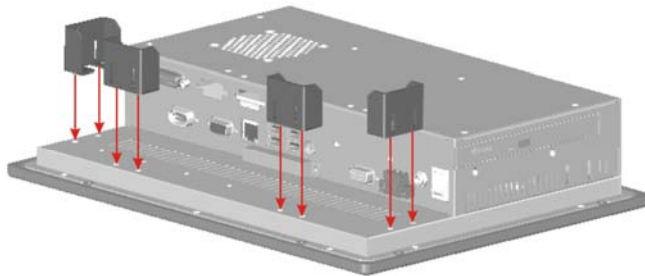

Figure 4-25: PPC-3712 Panel Mounting Kit
Step 1: Install the panel mounting kit onto the real panel (**Figure 4-25**).